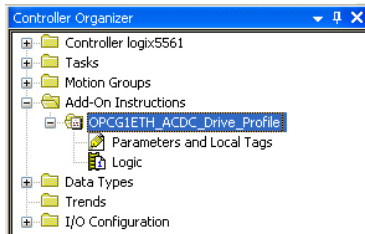

Figure 91: AC/DC Drive Profile Add-On Instruction
- 2) Right click on “Add-On Instructions” in the controller organizer view and select “Import Add-On Instruction”. Browse and import the AC/DC drive profile add-on instruction. Refer to Figure 91.